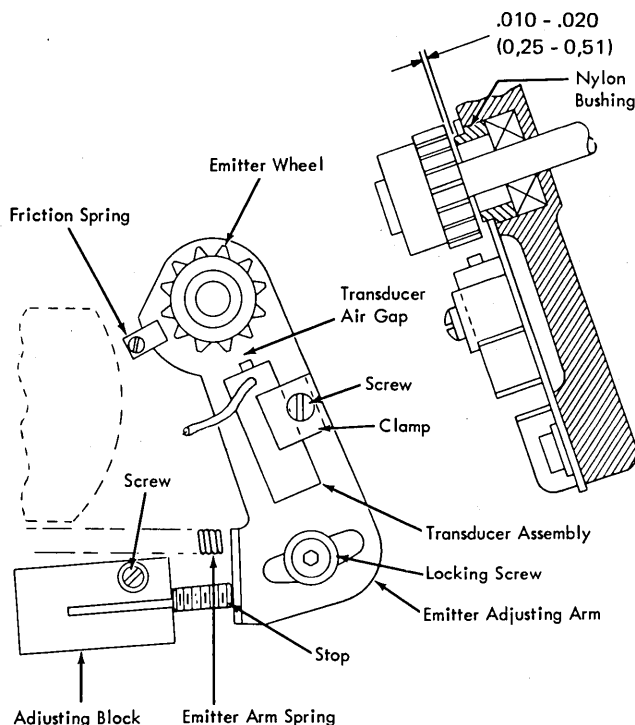

Figure 4-74. E1 Magnetic Emitter
1. The emitter wheel should be .010 to .020 in. (0,25 to 0,51 mm) from the nylon bushing as shown in Figure 4-74.
2. Loosen the transducer clamp screw, and adjust the transducer for .008 in. (0,20 mm) clearance to the emitter wheel. Figure 4-74 shows the transducer air gap.